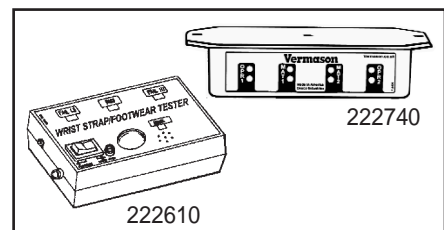

Figure 4. Wrist strap testers
3. Using the equipment shown in Figure 4 under "Testing", test the wrist band while it is worn to be sure of proper electrical resistance.